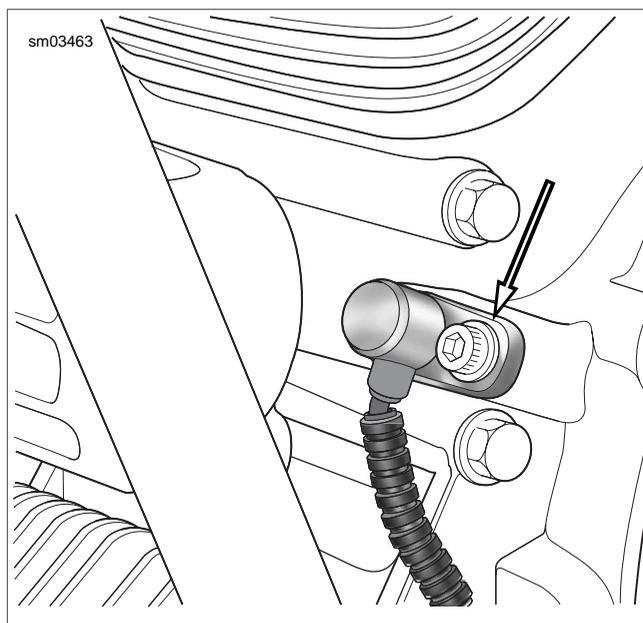
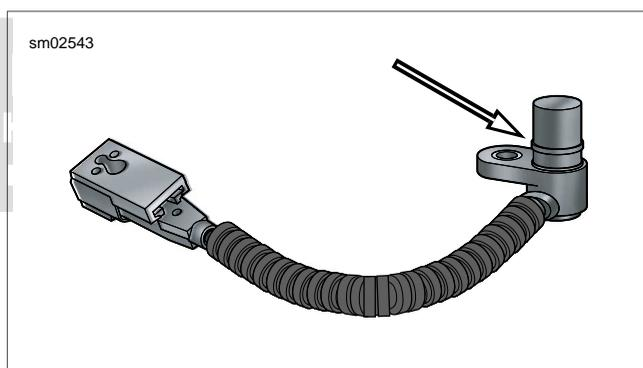

Figure 8-76. Remove CKP Sensor Mount Screw
Figure 8-77. CKP Sensor O-Ring
5. Remove screw to free CKP sensor mount from front left side of crankcase. Pull sensor from bore. See Figure 8-76 and Figure 8-77.
2. Push sensor into bore aligning hole in sensor mount with hole in spot face. Install screw and tighten to 90-120 **in-lbs** (10.2-13.6 Nm). See Figure 8-76.